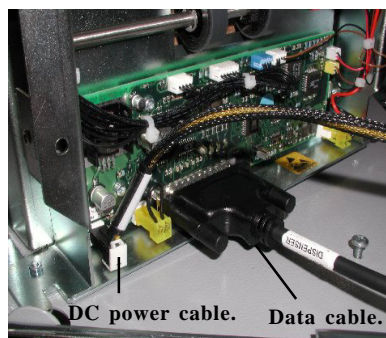

Figure 2. Dispenser serial communication cable and DC power cable.
5. Refer to Figure 2. Plug the DC power cable and the DB25 EJ-to-dispenser cable into the mating connectors on the back of the dispenser. Make sure the white strain clip on the DC power cable is pointing down. Make sure the thumbscrews on the DB25 EJ-to-dispenser cable are securely tightened.